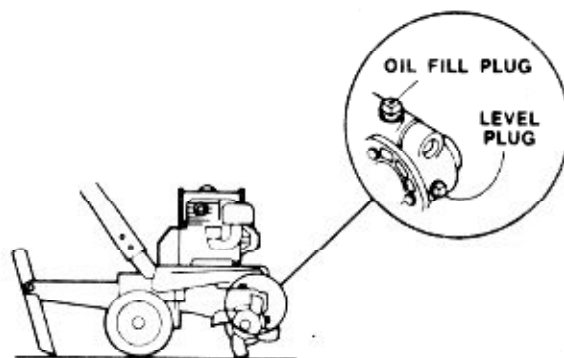

FIG. 17
2. **Gear Case** — To check the oil level of the tiller gear case, the tiller must be on a level surface. To check oil level, wipe dirt from around the plug, Fig. 17, and remove plug. Oil should be level with the bottom of the level plug hole. If it isn't, add lead base (EP) S.A.E. 140 heavy-duty oil (Part #4890) to bring oil up to the proper level. Replace level plug after oil begins to run out of the level plug hole. Check oil level after every 25 operating hours, or if unit shows signs of leakage.